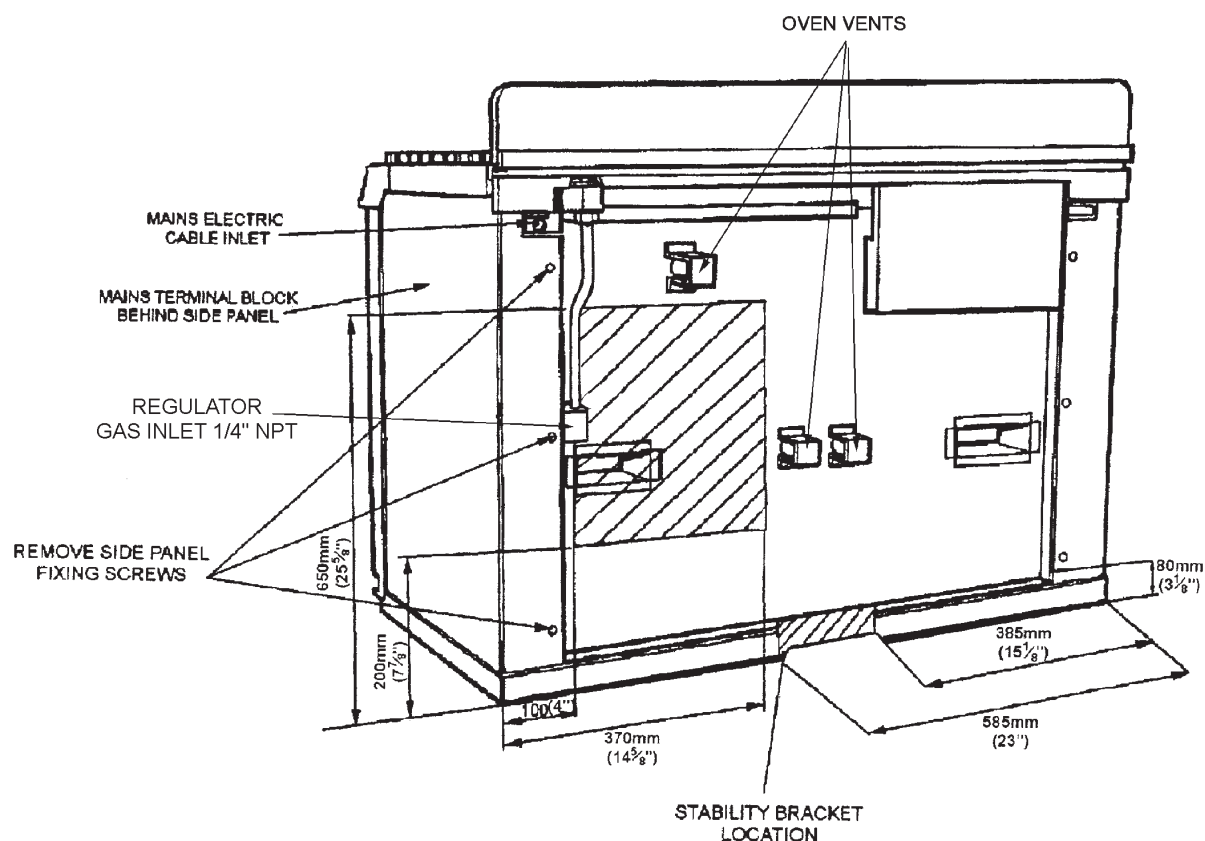

Fig. 3
Remove 6 screws securing side panel to gain access to mains terminal. See Fig. 3 for location of cover.
The gas flexiline connector must be fitted in the shaded area dimensioned in Fig. 3. Take into account that it must be possible to pull the cooker forward sufficiently for servicing. Ensure flexiline hose is not trapped between cooker back panel and rear wall. Ensure hose is routed within the shaded area and away from shielded oven vent.
A stability bracket shall be secured firmly to the fabric of the building. For positioning of bracket (See Fig. 3). A safety chain should also be anchored firmly to the wall and cooker to prevent strain on the gas connection, when the cooker is withdrawn for servicing. When fitting a stability bracket and chain refer to Fig. 3, 3A and 3B.
- Remove left hand and centre shroud from the control panel to gain access to the fixing screws. Remove two screws from control panel (one from left hand hole and one from centre hole). (See Fig. 3).